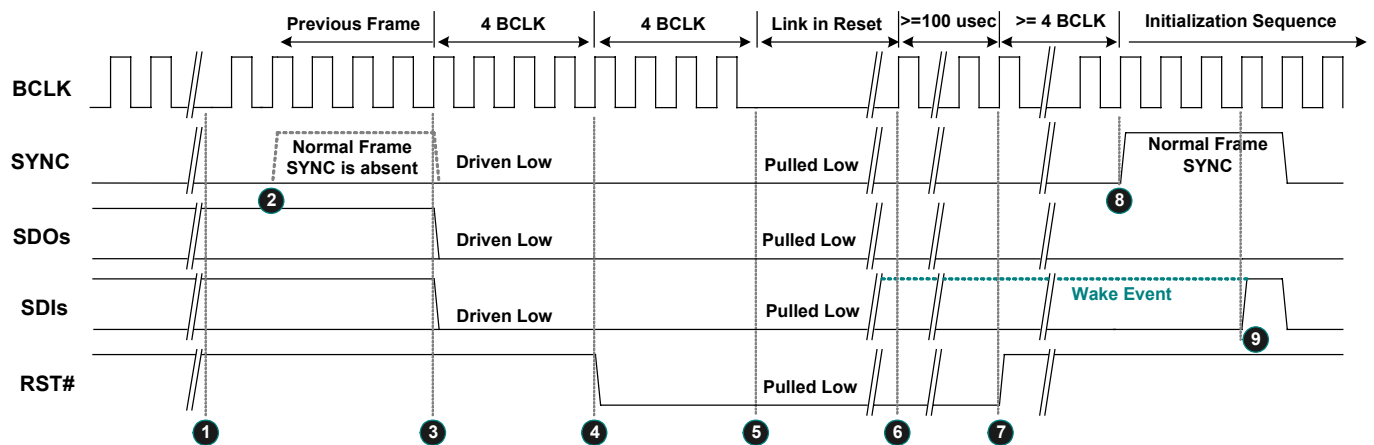

Figure 13. Link Reset Timing
3. Software initiates power management sequences. Figure 13, page 21, shows the 'Link Reset' timing including the 'Enter' sequence (❶~❺) and 'Exit' sequence (❻~❾)